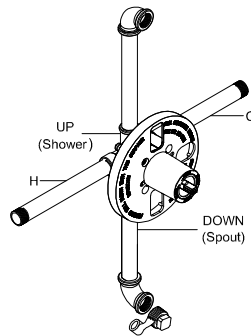

Fig. 2
- Position valve body correctly in wall (see Fig. 2). UP marking is on up side and DOWN marking on down side.